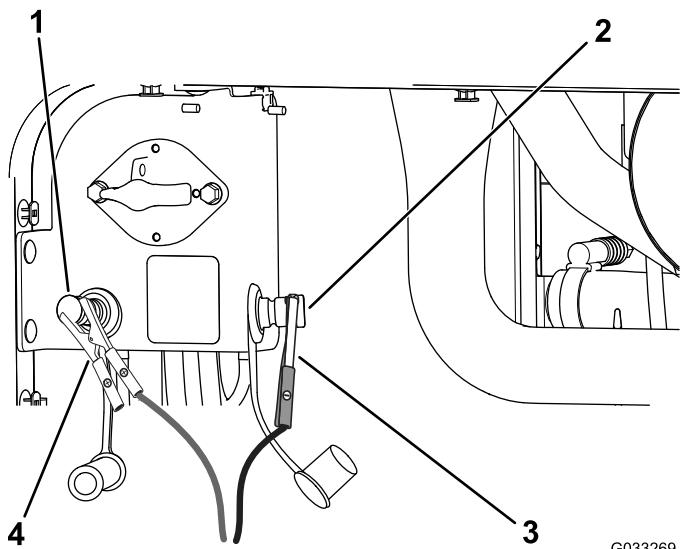

Figure 98
4. Connect the positive lead of the battery charger to the positive jump post (Figure 98).
5. Connect the negative lead of the battery charger to the negative jump post (Figure 98).
7. When the batteries are fully charged, unplug the charger from the electrical source, then disconnect the charger leads from the jump posts (Figure 98).